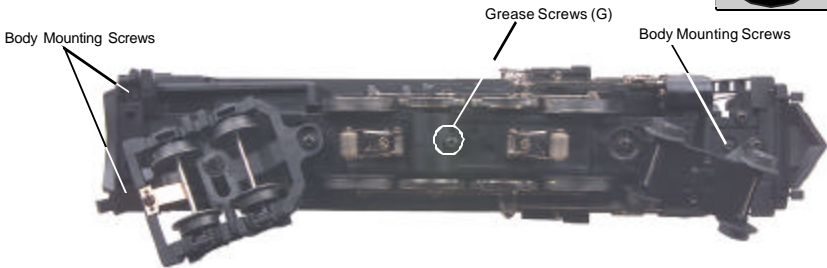

Figure 5: Lubricating The Chassis
You should regularly lubricate all side rods, linkage components and pickup rollers to prevent them from squeaking. Use light household oil and follow the lubrication points marked “L” in Fig. 5. Do not over-oil. Use only a drop or two on each pivot point.
3. Remove the Phillips screw (marked “GREASE”) located at each set of wheels (Fig. 5) and the gearbox cover screws (Fig. 5).
You should also grease the leading and trailing locomotive truck tongues to enhance their ability to slide on the chassis. Follow the grease points shown on Fig. 5.
If you experience poor or no smoke output when the smoke unit is on and has fluid, check the wick to see if it has become hard, blackened, and unabsorbent around the heating element. To remove the smoke unit you will first have to remove the boiler shell (by removing the body mounting screws shown in Fig. 5 on pg. 12), board and bracket that block the smoke unit assembly from being accessed. To do this, follow these instructions: